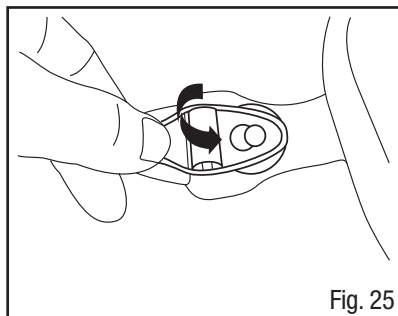

Fig. 25
1. Remove existing head harness by unsnapping each buckle from the buttons (Fig. 25).